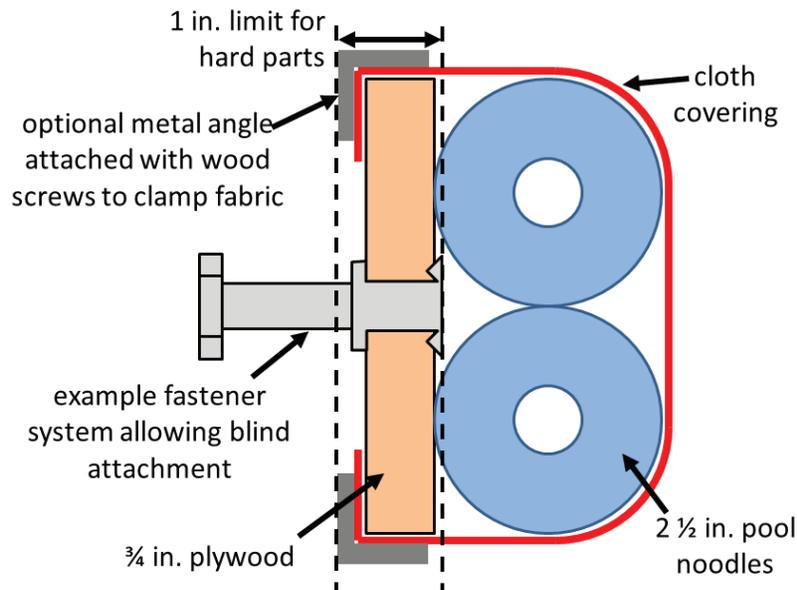
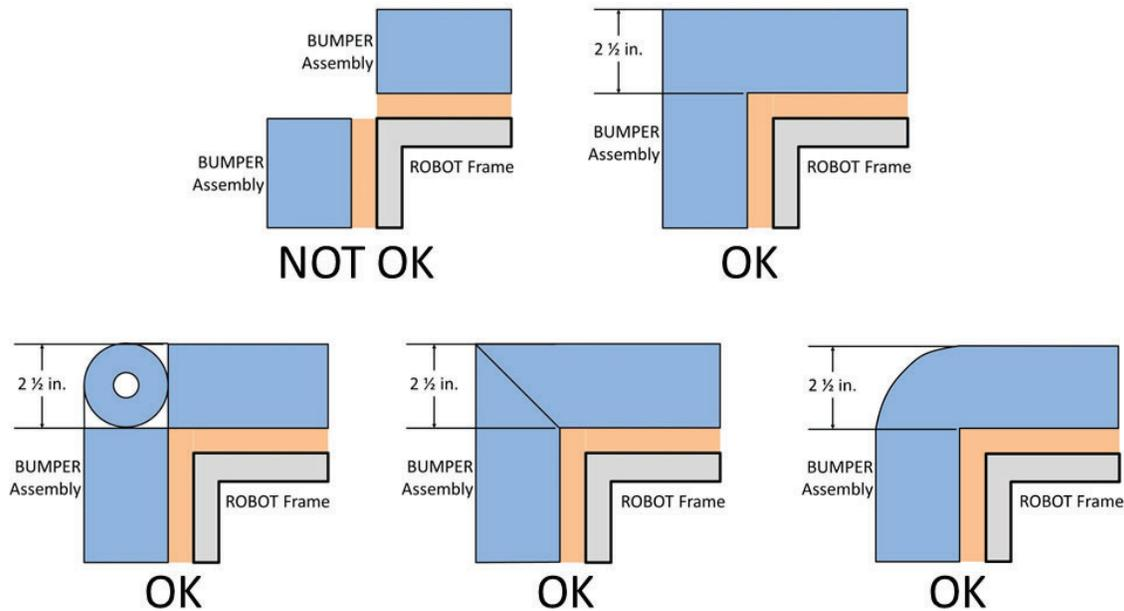

Figure 10-6 BUMPER Vertical Cross Section
Figure 10-7 Soft Parts of BUMPER Corners
- R31.** BUMPERS must be constructed as follows (see Figure 10-6):
- C. use a stacked pair of approximately 2½ in. (nominal) round, petal, or hex “pool noodles” (solid or hollow) as the BUMPER cushion material (see Figure 10-6). All pool noodles used in a BUMPER set (e.g. Red set of BUMPERS) may not be modified (with the exception of cutting to length or beveling ends) or deformed and must be the same diameter, cross-section, and density (e.g. all round hollow or all hex solid). Cushion material may extend up to 2½ in. (~63 mm) beyond the end of the plywood (see Figure 10-7). To assist in applying the fabric covering, soft fasteners may be used to attach the pool noodles to the wood backing, so long as the cross section in Figure 10-6 is not significantly altered (e.g. tape compressing the pool noodles).
- D. be covered with a rugged, smooth cloth. (multiple layers of cloth and seams are permitted if needed to accommodate R28, provided the cross section in Figure 10-6 is not significantly altered).
- E. optionally use metal angle, as shown in Figure 10-6 or other fasteners (e.g. staples, screws, etc.) to clamp cloth.
**R32.** Corner joints between BUMPERS must be filled with pool noodle material. Examples of implementation are shown in Figure 10-7.